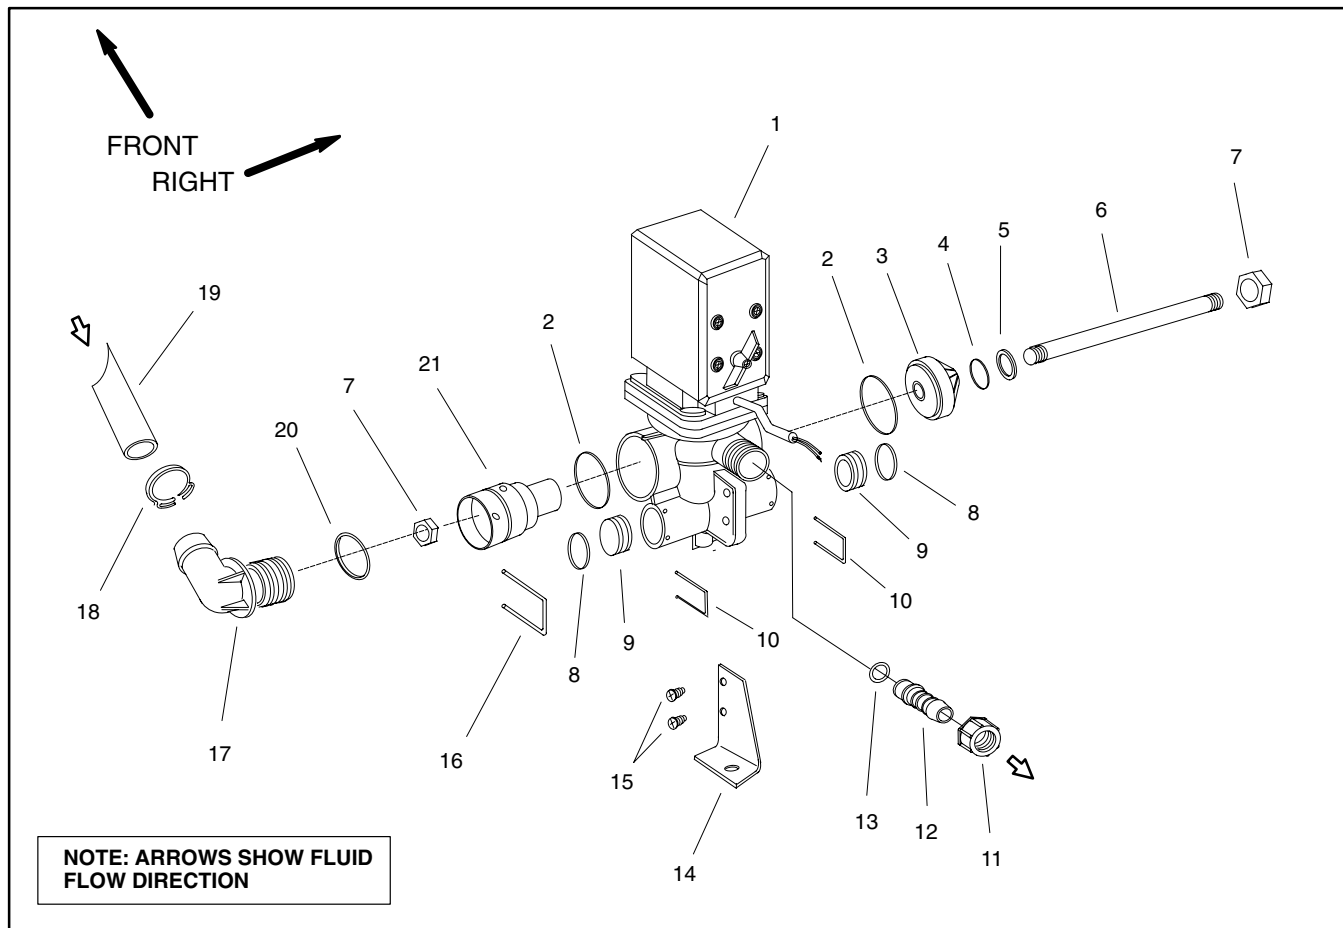

Figure 23
Disassembly (Fig. 23)
1. Disassemble agitation valve motor as needed using Figures 23 and 24 as guides. Discard all removed o-rings and gaskets.
Assembly (Fig. 23)
1. Reassemble agitation valve motor assembly using Figures 23 and 24 as guides. Replace all removed o-rings.